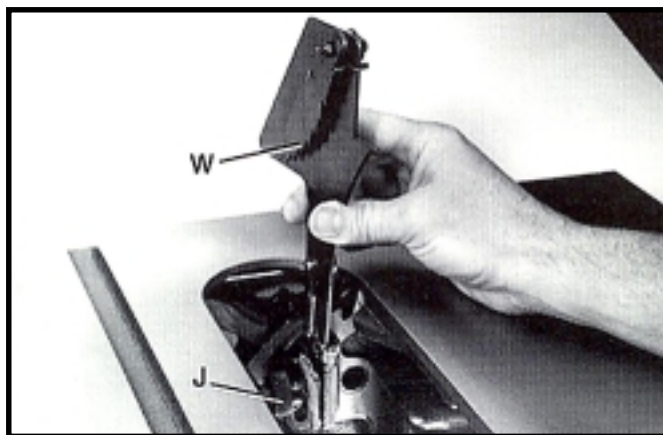
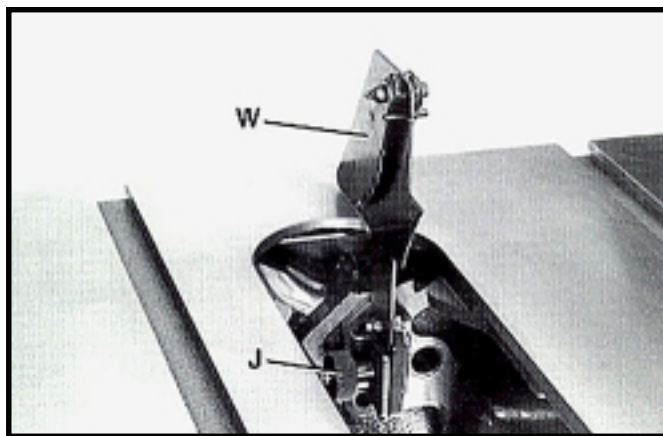

Fig. 21
Fig. 22
19. Loosen knob (J) Fig. 21, and slide splitter (W) down as far as possible into the splitter mounting bracket and tighten knob (J). Fig 22 illustrates the splitter assembled to the mounting bracket. **IMPORTANT:** When performing non thru-cutting operations, such as dadoing, the splitter (W) Figs. 21 and 22, can be removed by loosening knob (J). This enables you to use the guard basket for non thru-cutting operations.